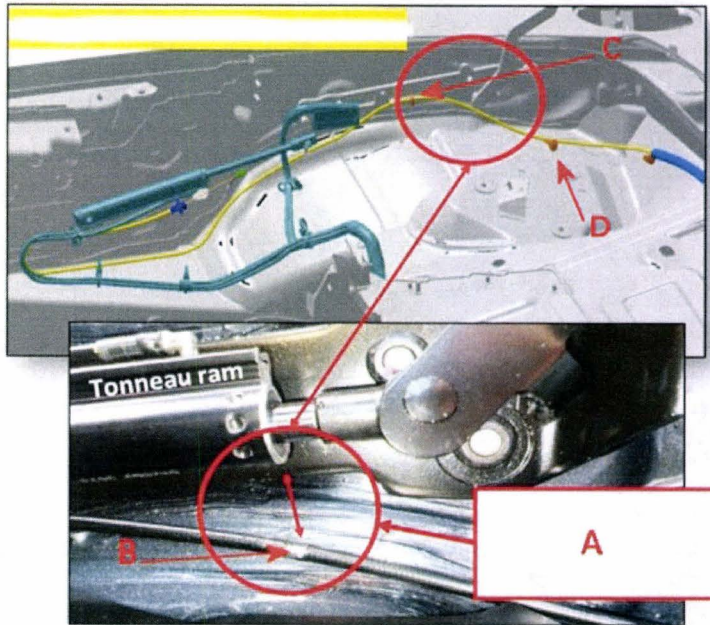

Figure 1
A potential compression point has been identified between the tonneau cover hydraulic ram and the C flap Bowden cable as it routes under the tonneau cover drive system (see Figure 1). A revised clip arrangement has been specified to avoid this compression damage. In severe cases the damage to the Bowden cable is such as to impair correct operation of the C flap, therefore a test of the C flap function is required to ensure the Bowden cables are serviceable before implementing the revised clip arrangement
- Figure 1 details the original routing and single cable tie (C) securing the Bowden cable (shown in yellow). The detail at point A shows the potential contact point between the tonneau cover hydraulic ram and the Bowden cable. The actual contact takes place when the tonneau is almost closed and therefore the close proximity of the hydraulic ram and the Bowden cable cannot be seen when viewed with the tonneau cover in a transient position. Detail B shows, in this case, a section of the outer sheath of the Bowden cable that has been removed by repeated contact with the ram. Note: as long as the system has passed the C flap function test then the absence of some of the outer sheath is not sufficient grounds to change the cables